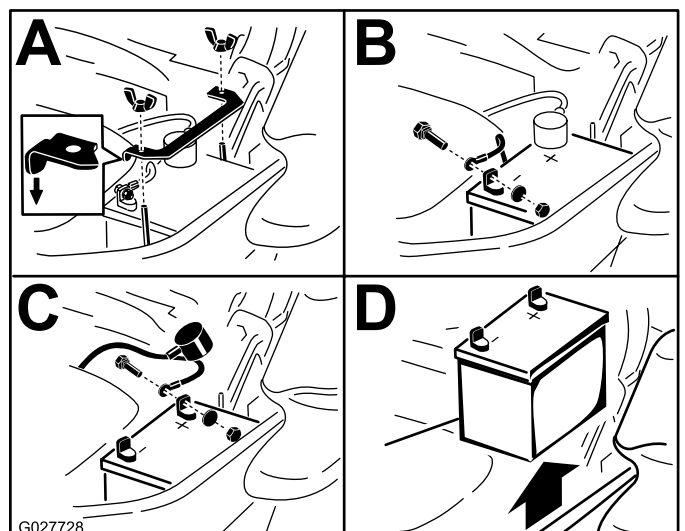

Figure 55
3. Remove the battery as shown in Figure 55.